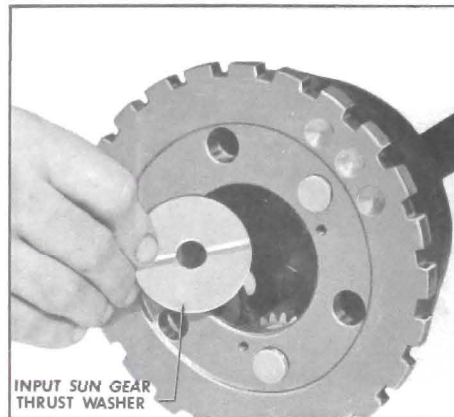

Figure 5-263
8. Remove input sun gear thrust washer. See Figure 5-263.